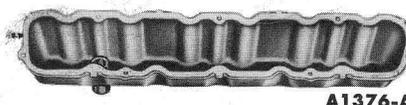

FIG. 30—Valve Rocker Arm Cover Gasket Installation
5. Clean the valve rocker arm cover. Coat one side of a new valve rocker arm cover gasket with oil resistant sealer. Lay the cemented side of the gasket in place in the cover (Fig. 30). Install the cover, making sure that the gasket seats evenly around the head. The cover is tightened in two steps. First torque the retaining bolts to 3-5 ft-lbs. Two minutes after the initial tightening, torque the bolts to the same specification.